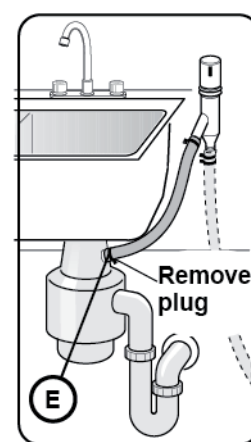

Figure 13
4. To a disposer dishwasher drain connection through an air gap, as shown on **Figure 13**.